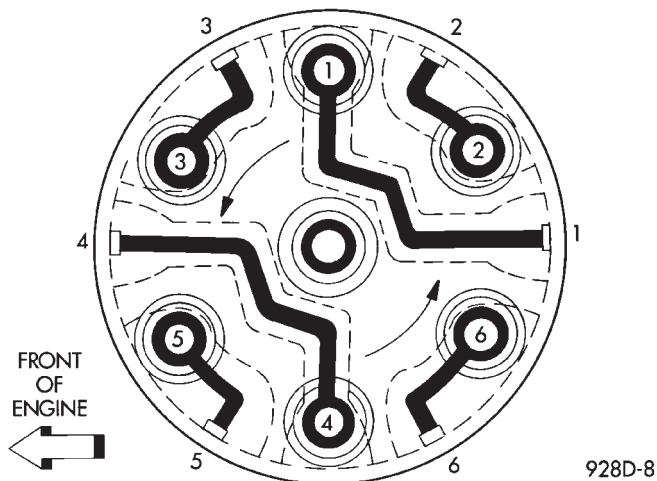

Fig. 23 Distributor Cap Terminal Routing, View from Top of Cap—3.0L Engine
- (b) Rotate rotor to number one rotor terminal (Fig. 23).
(c) Lower the distributor into the opening, engaging distributor drive with drive on camshaft. With distributor fully seated on engine, rotor should be under the number 1 terminal (Fig. 23).